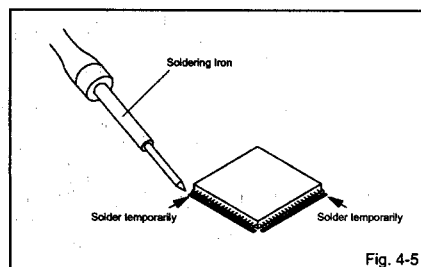

Fig. 4-5
1. Take care of the polarity of new IC and then install the new IC fitting on the printed circuit pattern. Then solder each lead on the diagonal positions of IC temporarily. (Refer to Fig. 4-5.)